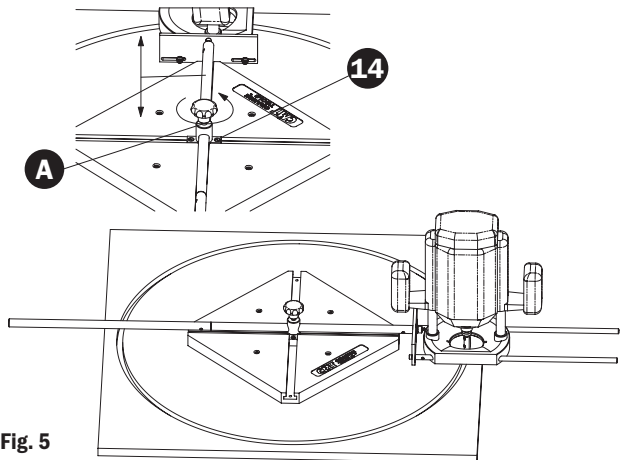

Fig. 5
(Fig. 5) Fit the complete slider (A) into the cross frame slot, move it towards the centre of the cross frame, (1) where the slots cross, and fix it to the structure (1) using the two countersunk screws M4x25 (14). Move the router along the extension rods (4) e (5) until the radius is set and once this has been done, tighten the bolt (7) on the slider pin (2).